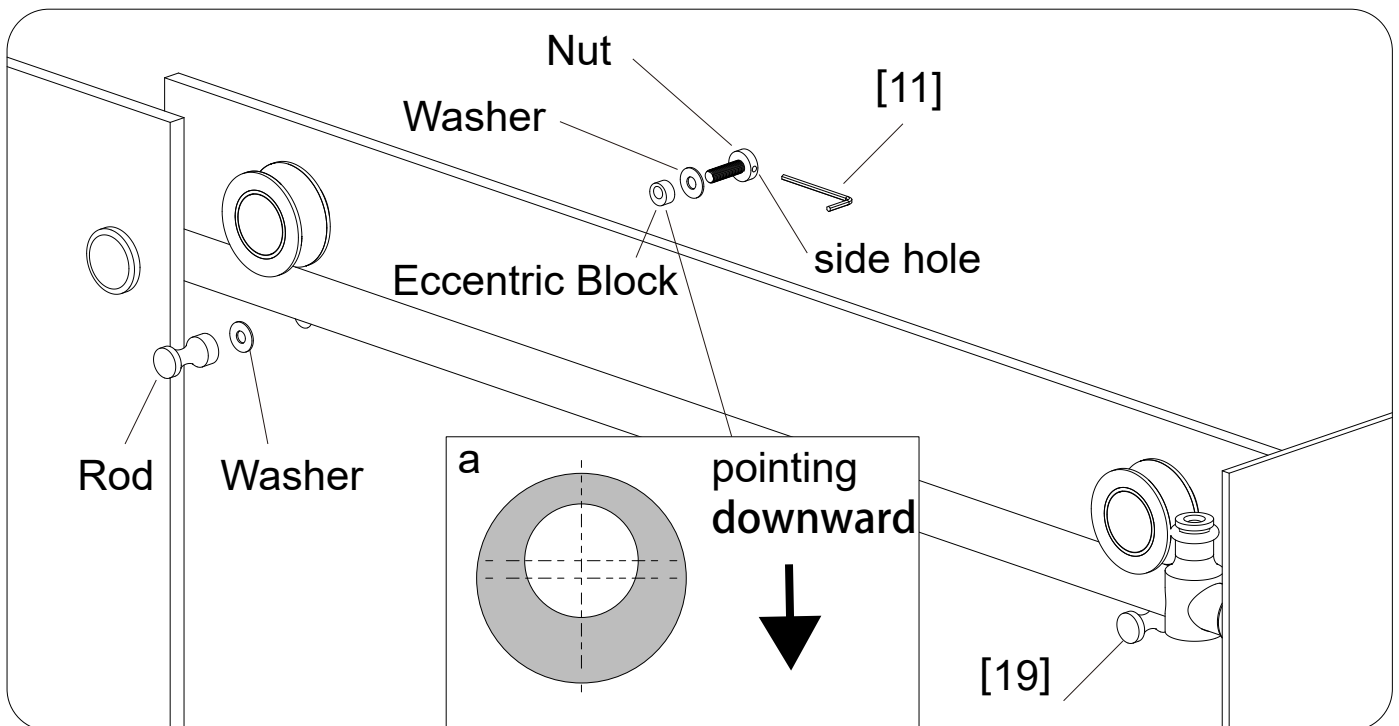

Fig 10
1. Disassemble the **Roller Guards [19]** and install it to the **Door Panel [05]** as the figure shows. (Fig 10)
2. Install the **Rod** and one **Washer** from the front of the **Door Panel [05]**, install the **Eccentric Bolck, Washer** and **Nut** from the back of **Door Panel [05]**. The **Eccentric Bolck** should be installed as **Fig 10.a** shows. If the **Rod** is too close to the **Support Bar [03]**, turn the **Eccentric Bolck**. Hold the **Rod** by hand and use a matched **Allen Key [11]** to stick to the side hole of the **Nut** and tighten it to secure.